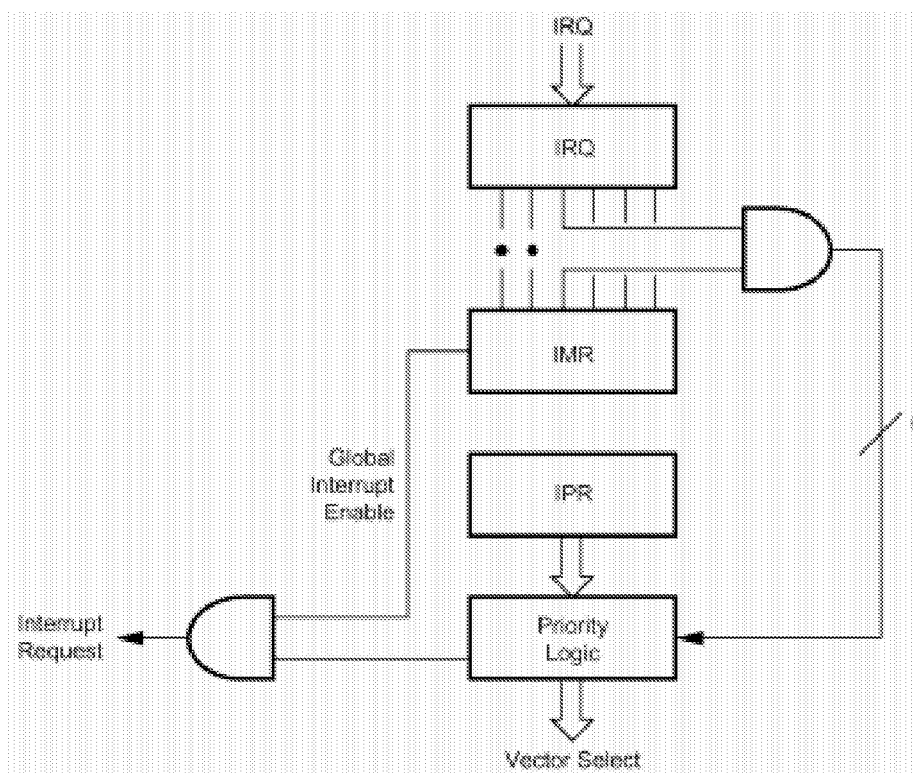

Figure 19. Interrupt Block Diagram
**Interrupts.** The DTC features six different interrupts from six different sources. These interrupts are maskable and prioritized (Figure 19). The six sources are divided as follows: